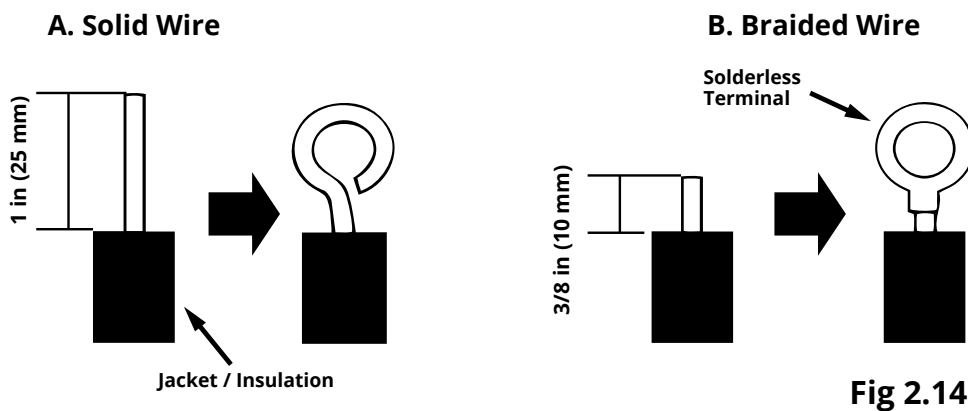
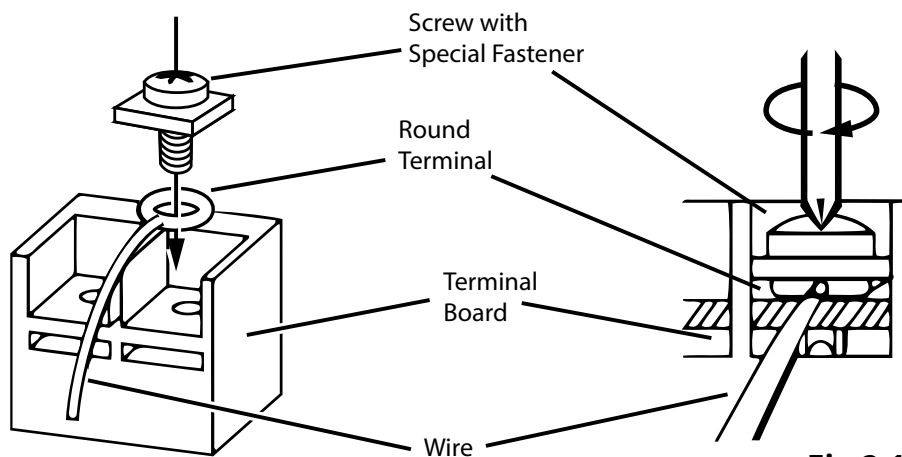

Fig 2.14
Fig 2.15
For solid wires (Refer to Fig. 2.14 A):
For braided/strand wires (Refer to Fig. 2.14 B & Fig. 2.15):
4. Locate the round terminal conduit. Use a screwdriver to replace it and tighten the terminal screw (as shown in Fig. 2.15).